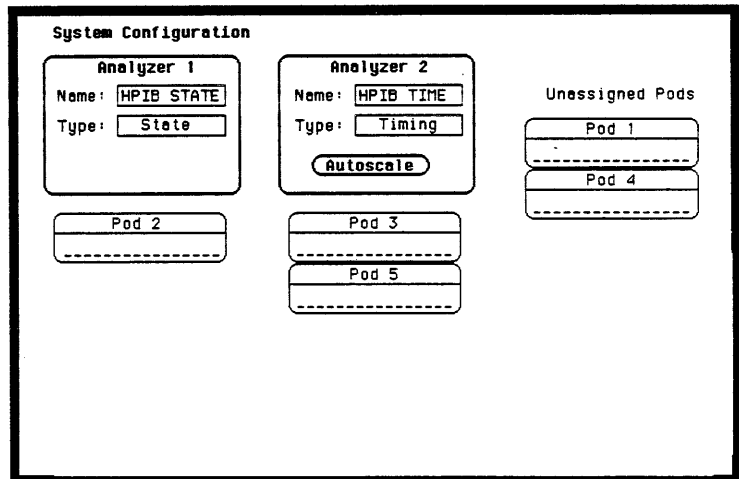

Figure 4-3. Configuration Menu for Timing Analysis with the HP 1650A or HP 16510A
2. For the HP 1650A or HP 16510A, assign pods 3 and 5 to Analyzer 2. You should see a display as shown in figure 4-3.